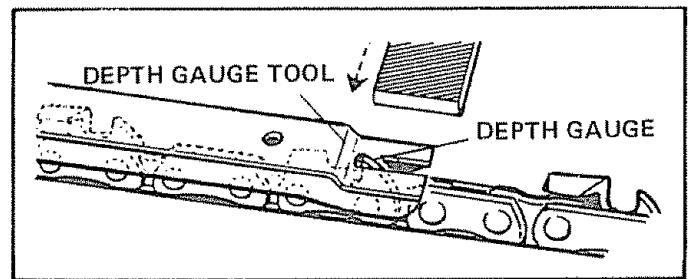

Figure 39
- a) Place depth gauge tool over each cutter depth gauge. Figure 39.